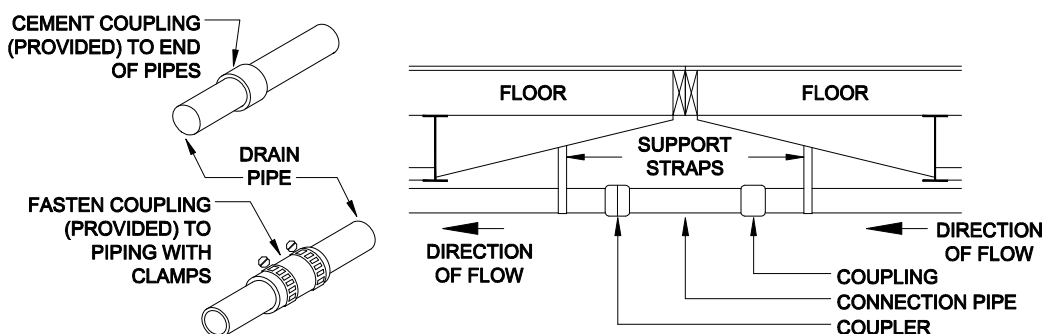
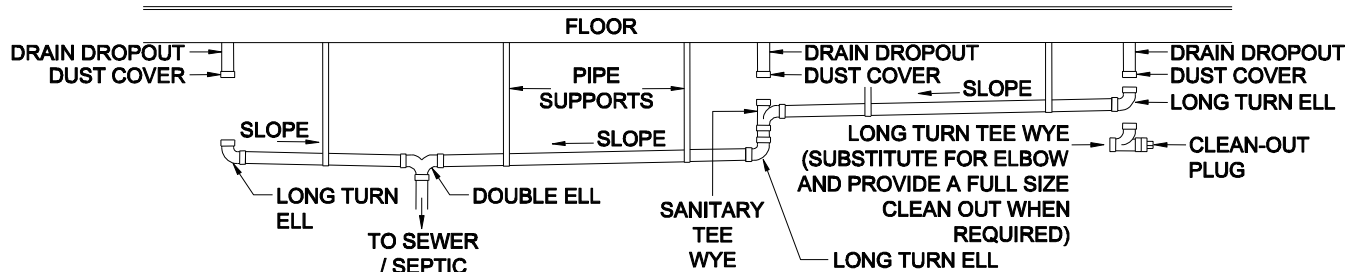

Figure 47. Drain crossover connection
Figure 48. DWV system
2. **Assemble pipes.** Using the drain schematic drawing provided with the home, begin assembling the DWV system starting at the location farthest from the sewer/septic connection and working towards the outlet, fastening the pipe with cement or adjustable screw-clamp connectors, if provided (**Figure 47**). As the system is assembled, support the piping with temporary blocking. Unless otherwise noted on the schematic diagram, provide a minimum 1/4 inch per foot slope towards the sewer/septic using a plumber's level. Where a slope of 1/4 inch per foot cannot be maintained, use a minimum slope of 1/8 inch per foot and install of a full-size clean-out at the uppermost point of the run (**Figure 48**).